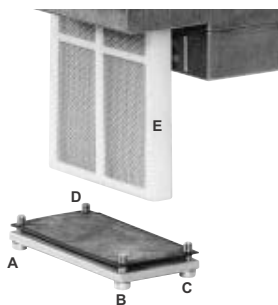

Fig. 32
- 2 Remove screws 1 ÷ 6 (Fig. 32).